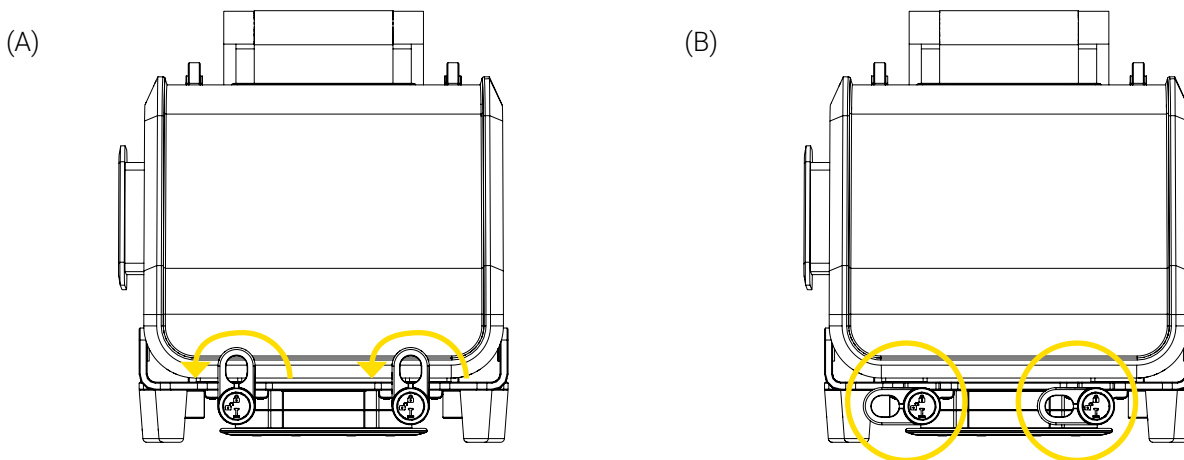

Figure 5: Unlocking the Bracket Pro Serie 60 - GR
1. Turn the two (2) rotary locks located at the front of the bracket a quarter of a turn counterclockwise to the unlocked position  (Figure 5).